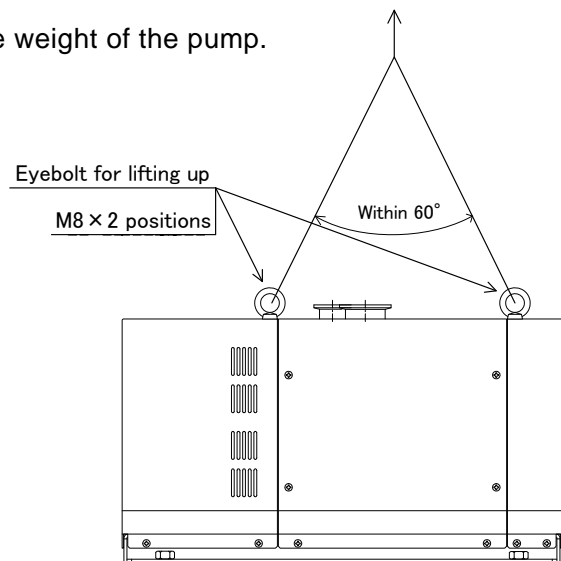
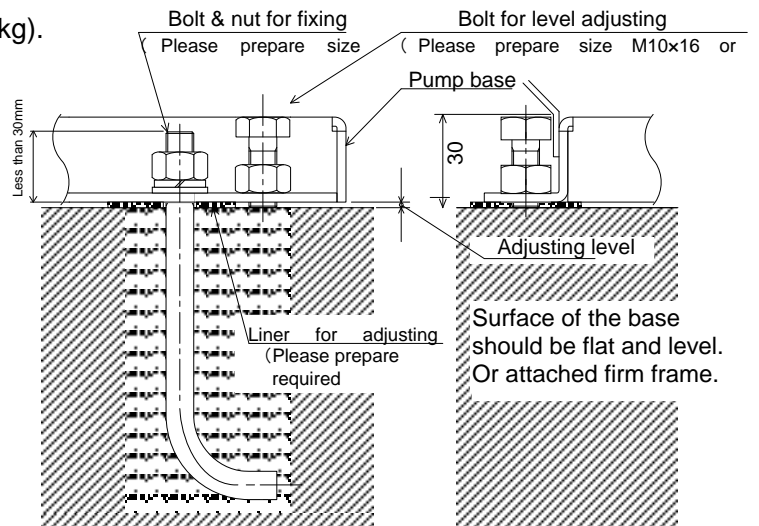

Fig. 4.1 How to Lifting up the Pump
Fig.4.2 How to Fix the pump
- Figure 4.1 shows that the angle of wire when lifting up the pump, should be equal apportion.
\*Please fix and level the pump on the base (Fig.4.1, Fig.4.2)